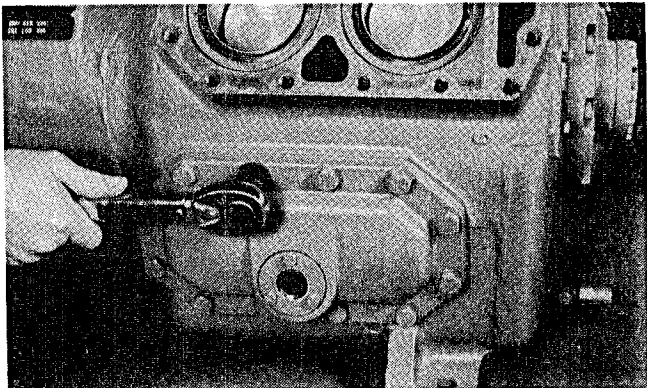

Figure 19
1. Remove the bolts (Figure 19) and tap lightly around the rim of the cover to help break the gasket seal.